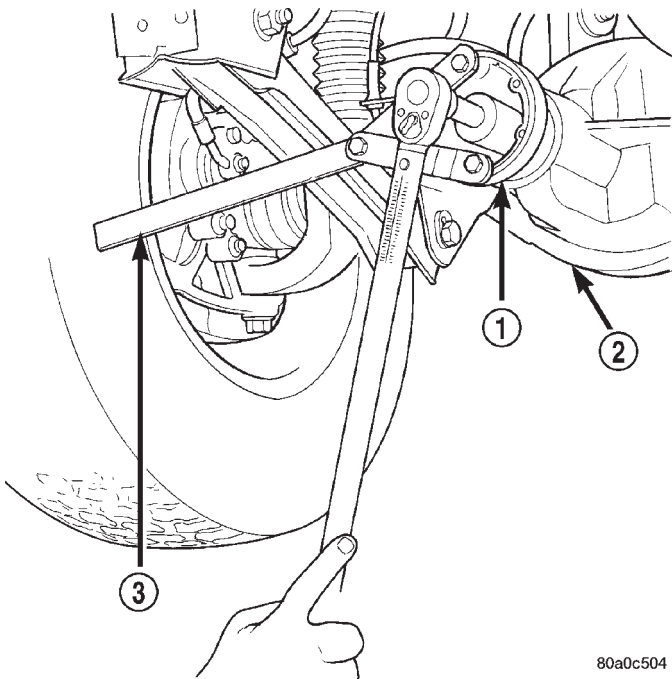

Fig. 14 Tightening Pinion Shaft Nut—Typical
- (5) If the rotating torque is low, use Holder 6958 to hold the pinion yoke (Fig. 14), and tighten the pinion shaft nut in 6.8 N·m (5 ft. lbs.) increments until proper rotating torque is achieved.